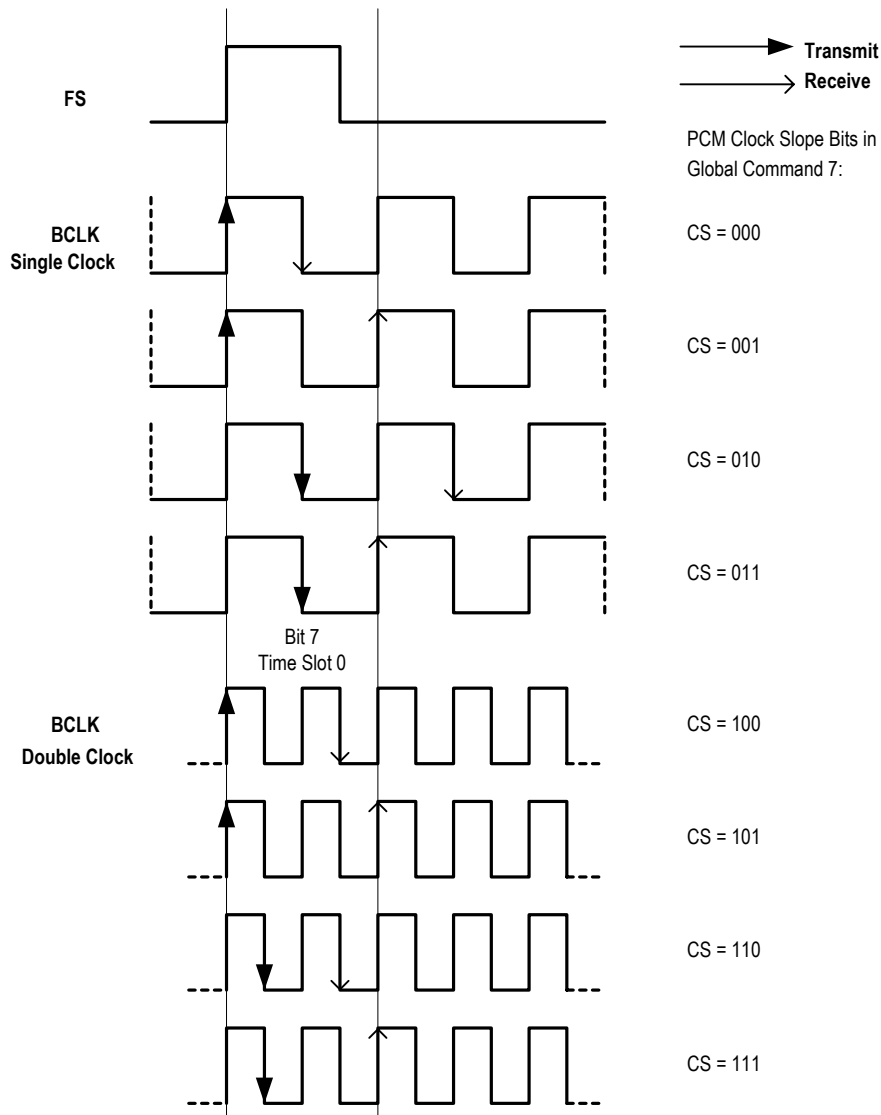

Figure 3 Sampling Edge Select Waveform
In MPI mode, the IDT82V1068 provides two flexible PCM buses for all 8 channels. The digital PCM data can be compressed (A/ μ -law) or linear format, depending on the DMS bit in Global Command 7. The data rate can be configured as same as the Bit Clock (BCLK) or half of it. The data can be transmitted or received either on the rising edges of BCLK or on falling edges of it. The data transfer time slots can be offset from Frame Synchronization (FS) by 0 BCLK period to 7 BCLK periods. See Figure 3. Global Command 7 makes these selections for all 8 channels.